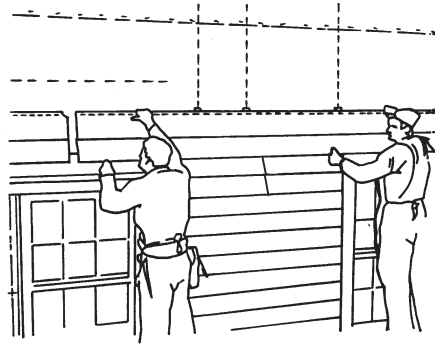

Figure 36.
- Always overlap joints away from entrances and away from the point of greatest traffic. This will improve the overall appearance of the installation (Fig. 36).